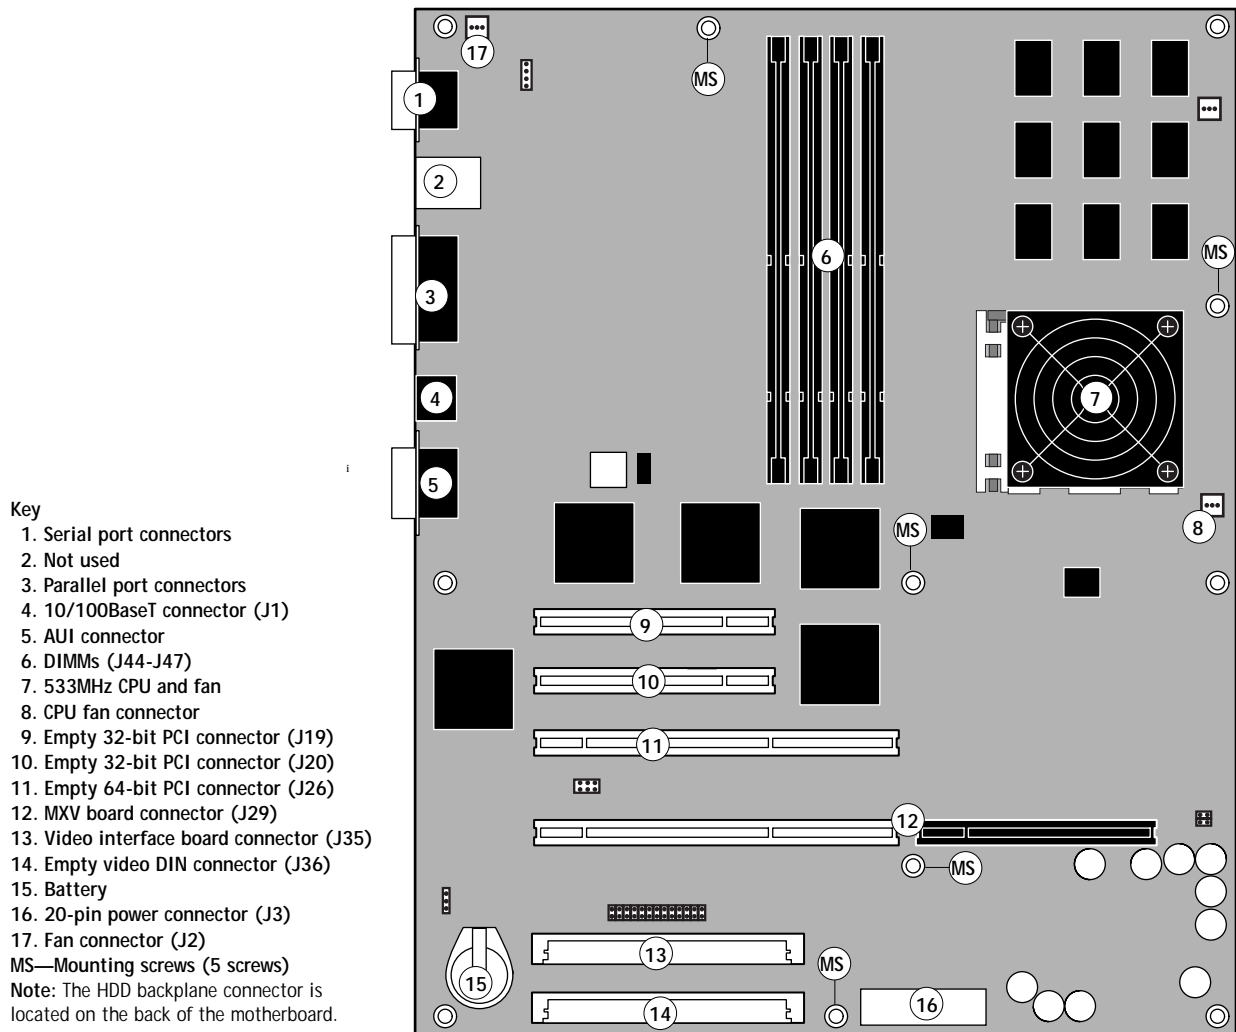

FIGURE 4-18 Diagram of the Fiery ZX motherboard
3. Remove the five mounting screws on the motherboard (see Figure 4-18 on page 4-23 for locations).
6. Insert the five motherboard mounting screws to attach the motherboard to the tray but do not tighten them completely (see Figure 4-18 on page 4-23 for screw locations).